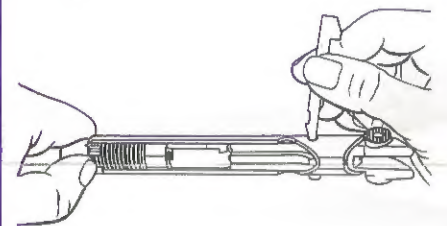

Fig. 5
9. The breech block retaining pin may then be removed by pulling the barrel forward slightly and held in this position while the retaining pin is pushed out. The end of the firing pin is convenient for this purpose. The reason for pulling the barrel forward is to take tension off the retaining pin for removal. (Fig. 5)